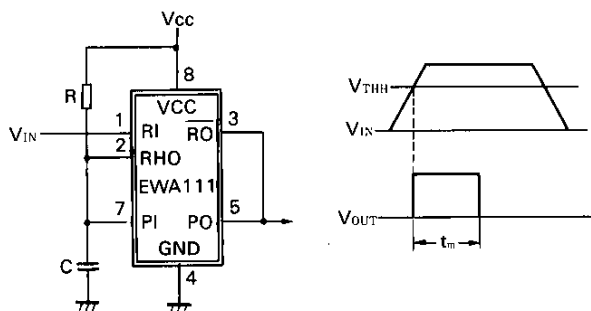
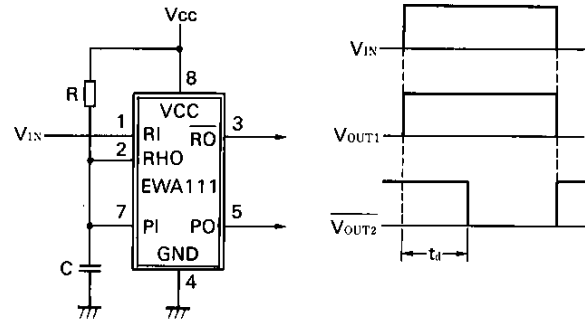

Fig. 12 Monostable multivibrator circuit
Fig. 13 Delay circuit ①
With the EWA111, a monostable multivibrator circuit with an accurate input threshold voltage can be created. Figure 12 shows an example of such a monostable multivibrator circuit. The output pulse width, t_m , can be set easily using resistor R and capacitance C . Calculate it using formula (11).
11. Delay circuit ①
In the monostable multivibrator circuit shown in Fig. 12, disconnect $\overline{RO}$ output and PO output of the EWA111 to obtain a delay signal $[V_{OUT2}]$ from the PO output terminal as shown in Fig.13. The delay time, t_d , can be set free with resistor R and capacitance C. Calculate it using formula (11).